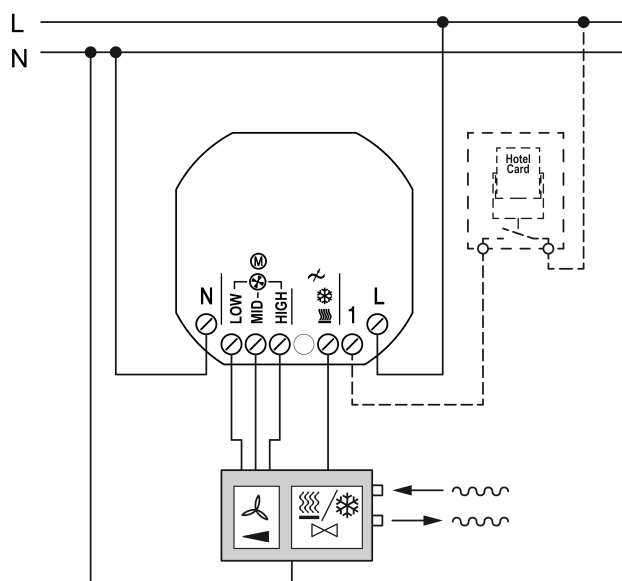
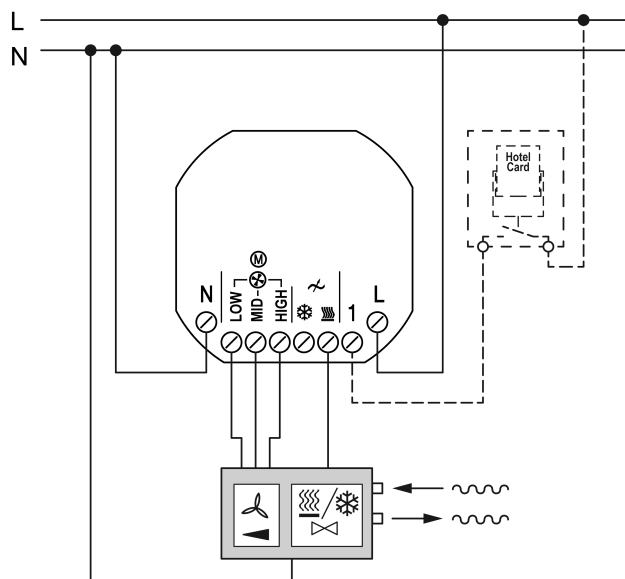

Figure 5: Connection of a 2-pipe fan coil unit with hotel card switch
Figure 6: Connection of a 2-pipe fan coil unit to a 4-pipe fan coil controller
- Connect the fan coil unit for 2-pipe operation to a 2-pipe (Figure 5) or 4-pipe (Figure 6) power supply unit variant.